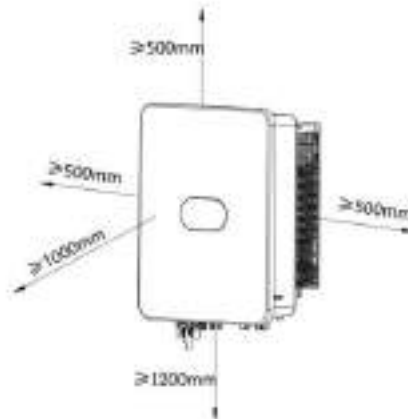

Fig. 4-4 Installation Spacing of Inverter
- (2) Leave adequate space around the inverter to facilitate air circulation and future handling of the inverter. See Fig. 4-4.